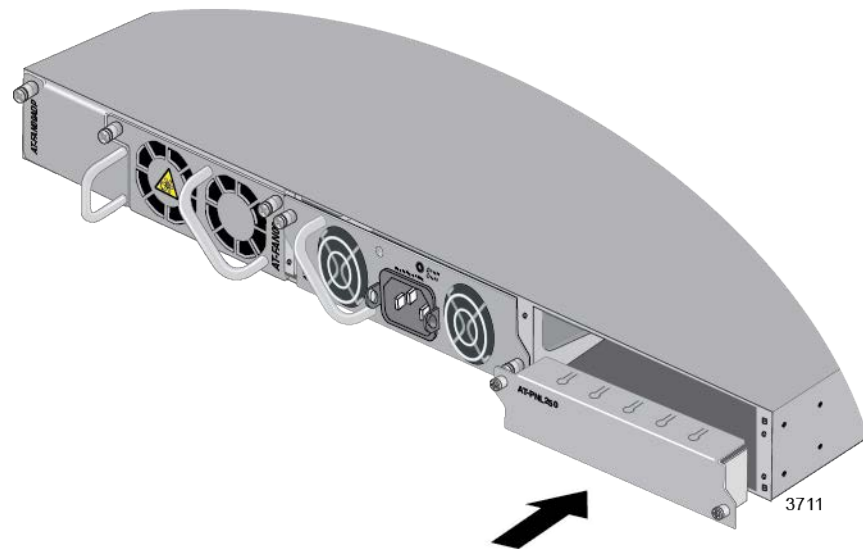

Figure 39. Installing a Blank Panel on a Power Supply Slot
- ❑ Use the AT-PNL800/1200 Blank Panel if the switch has only one AT-PWR800 or AT-PWR1200 Power Supply. Refer to Figure 39.